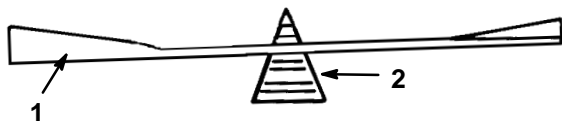

Figure 24
2. Check the balance of the blade by putting it on a blade balancer (Fig. 24). If the blade stays in a horizontal position, the blade is balanced and can be used. If the blade is not balanced, file some metal off the back side of the blade. Repeat this procedure until the blade is balanced.